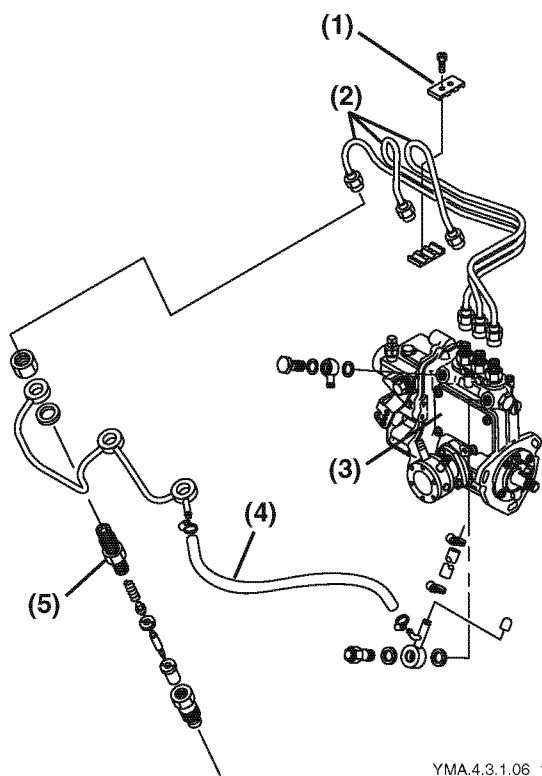

Figure 5-124
1. Install and lightly tighten the fuel injection lines (**Figure 5-124, (2)**) onto the fuel injection pump (**Figure 5-124, (3)**) and then install the fuel injection line retainer (**Figure 5-124, (1)**).
2. Install the fuel injection pump fuel return line (**Figure 5-124, (4)**) to the fuel injection nozzles (**Figure 5-124, (5)**).